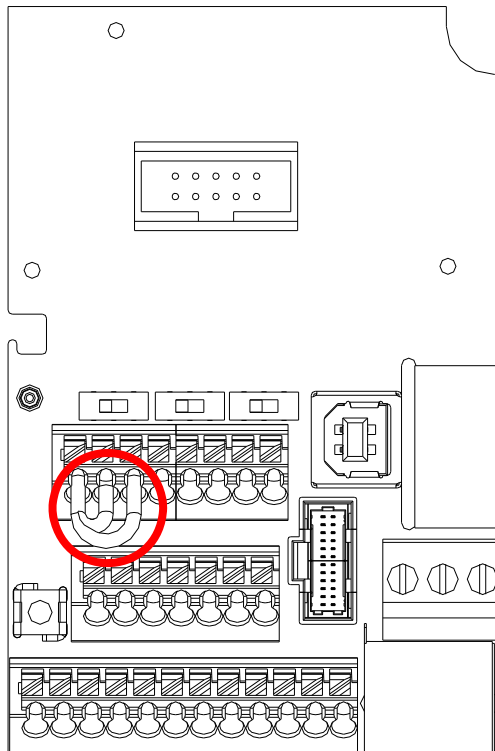

Figure 2
- 17-3-1. Internal circuit diagram of safe control loop is shown in Figure2.
- 17-3-2. Terminals of the safe control loop + 24V-S1-S2 are short-circuited together with jumper wire at the factory, as shown in Figure 2.